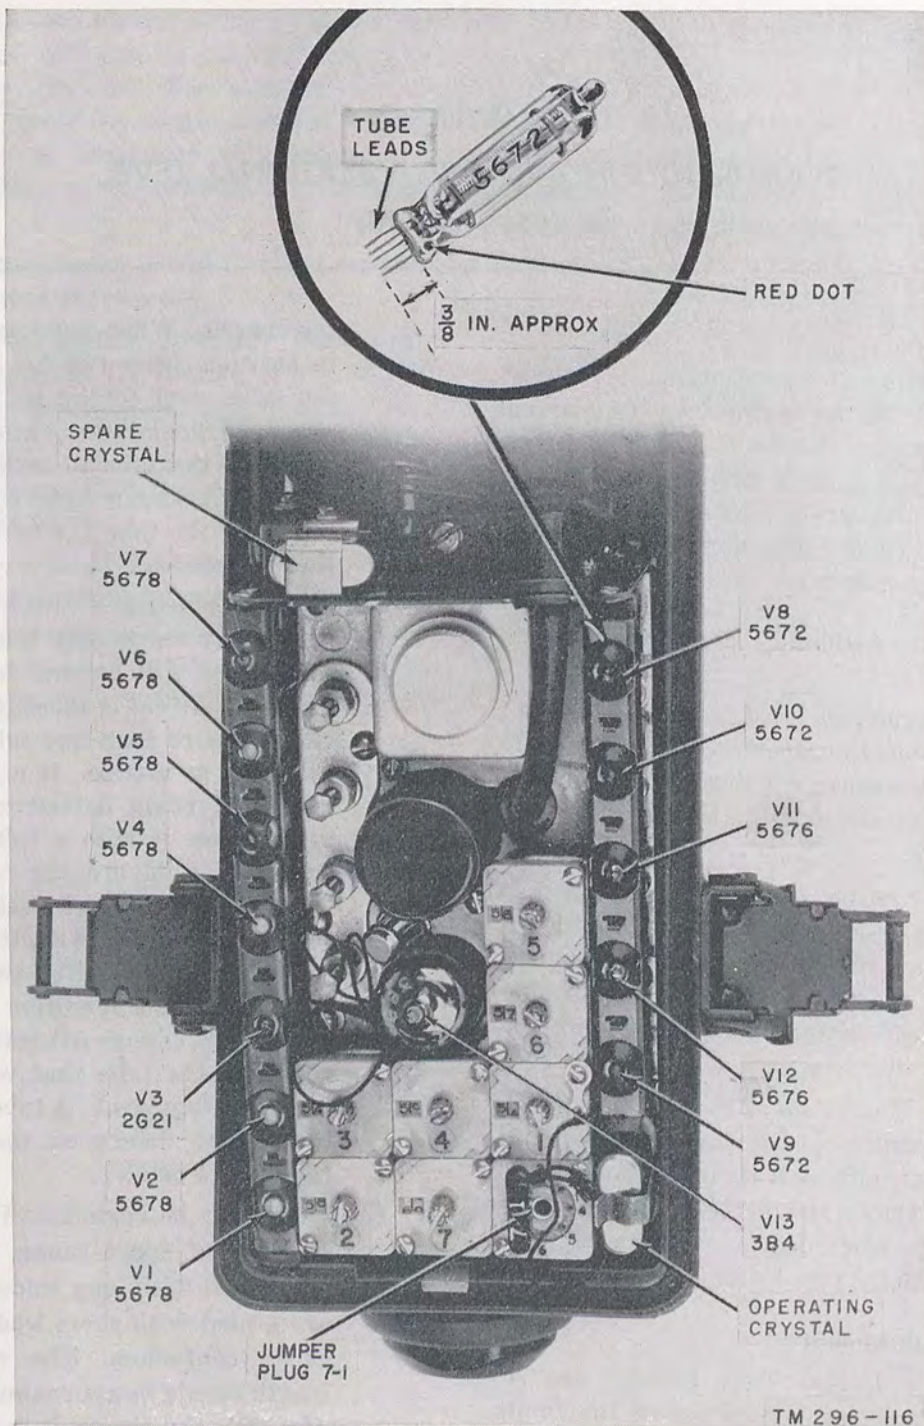

Figure 27. Tube location.
the chassis. When putting a new tube in position, place red dot (fig. 27) on the tube, next to the red dot on the receiver-transmitter chassis. Press down on the tube to make sure that the tube fits snugly in its socket. After replacing the tube (or tubes), replace the tube guard.
- (2) When replacing a tube, determine whether or not to keep the old tube or the spares will become full of tubes whose condition is uncertain. Do not remove more than one tube from the radio set at a time. If a tube is suspected of being defective, remove it and replace it with a tube known to be good. Compare the operation or condition of the radio set before the tube was replaced with the operation of the radio set after the tube was replaced. If the condition of the radio set did not change after the tube was replaced, the tube that was removed was probably good. A tube tester may be used to determine the quality of the tube (*b* below).
- (3) There may be variations in the length of leads of spare tubes. Some tubes are issued with long leads, and others are issued with short leads. This can cause confusion. The correct lead length should be approximately $\frac{3}{8}$ inch (fig. 27). Cut the leads to the required length using diagonal cutting pliers. Do not pull on the leads while cutting them. Use sandpaper to remove burrs or roughness on ends of leads after cutting the leads.